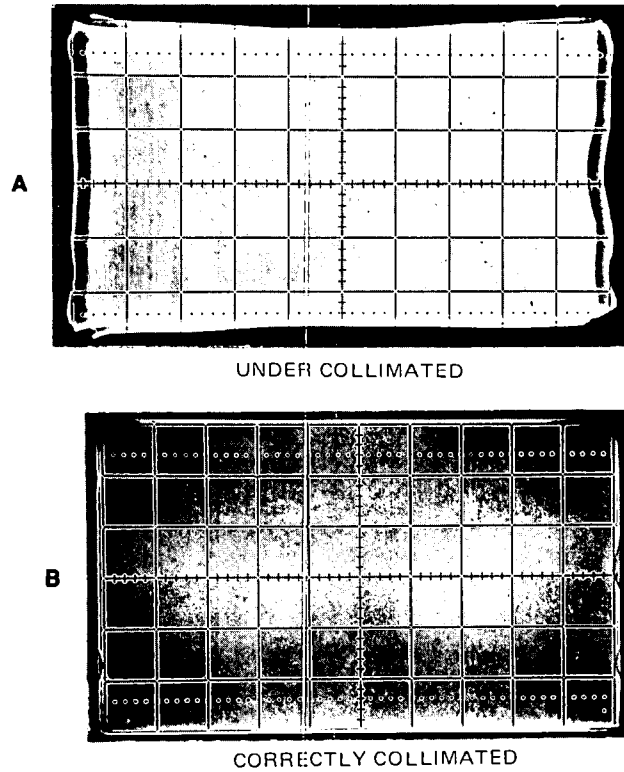

Figure 5-1. Collimator Pattern Adjustment
- a. Turn COLL ADJ A17R115 clockwise until edges of pattern just fill CRT viewing area. (This should be done while alternately erasing pattern.) See figure 5-1 for proper display.